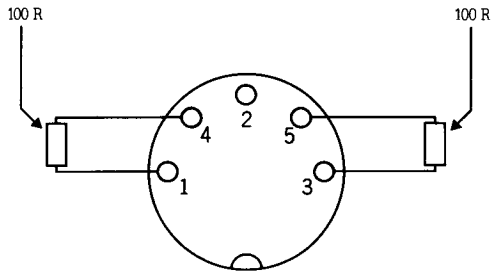

Figure 3: Wiring a test DIN plug
(1) Plug a 5-pin DIN plug wired with two 100 ohm resistors as in figure 3 into one of the sockets at the extreme end of the network cable.
- (2) Connect a meter between the two clock lines at the other extreme end. The meter should read less than 140 ohms for reliable operation. If no reading is obtained move towards the other end, one socket at a time, until you obtain a reading. At this point the fault will lie between the socket under test and the socket previously tested. Note that the fault could be bad soldering in either socket or bad cable between the two sockets.
- (3) Once you have checked that the two clock lines are correct, repeat the tests for the data lines.